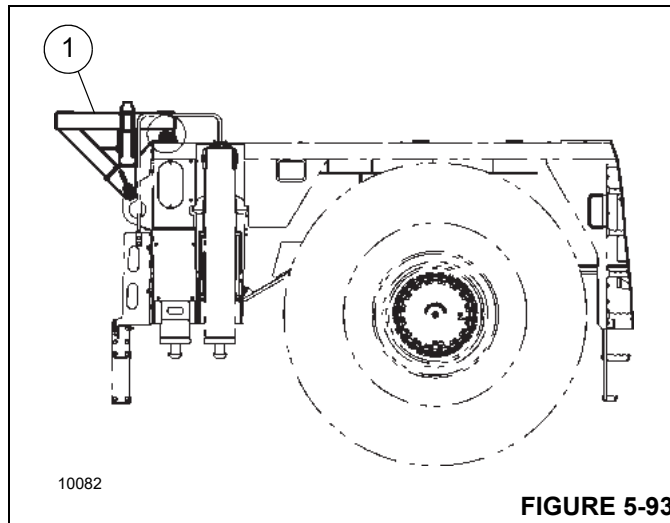

FIGURE 5-93
2. Make sure counterweight support (1, Figure 5-93) is securely attached at rear of carrier.